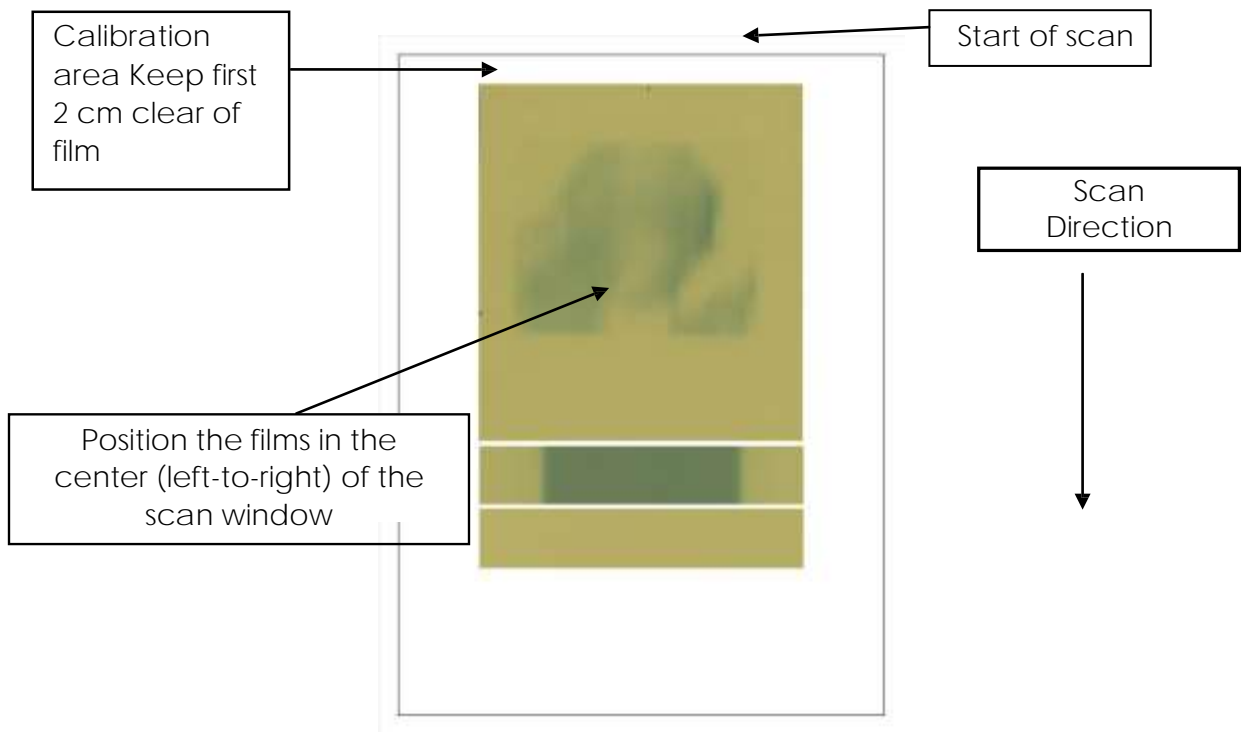

Figure 4
- Place the application film, the calibration film(s) and an unexposed calibration film on the scanner as shown in Figure 4. The time between film exposure and scanning is related to the time window within which the calibration strip and application film were exposed. Your efficiency increases when the user minimizes the time window. For exposures  $t$  min. apart, film scanning can be done  $4t$  min. later, or any time thereafter.